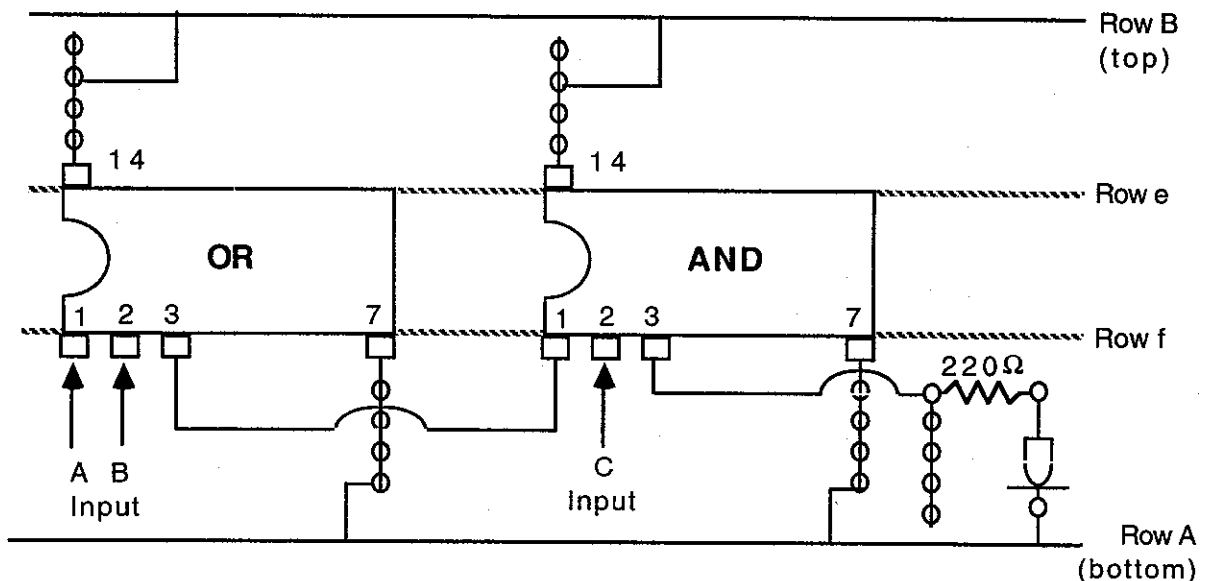

Fig. 6. OR To AND Combination Circuit.
- (g) Make the circuit as shown in Fig. 6 using the breadboard. Connect the power supply (+ 5V) across row B at the top of the breadboard and the ground to row A at the bottom. Mount the OR-gate unit (7432) on the left side of the breadboard and the AND-gate unit (7408) on the right side. Connect pin #14 to top row B. Connect pin #7 of the OR unit to ground (bottom row A) and its pin #3 to pin #1 of the AND unit. Thus the output of the first OR gate will be fed to input A of the AND gate. The second input (B) for the AND gate will be fed to its pin #2. Connect a 220 Ω resistor and LED as shown in Fig. 6 below. Connect pins #14 of the OR-gate and the AND-gate unit to top row B of the breadboard and its pin #7 to the bottom row A (ground).